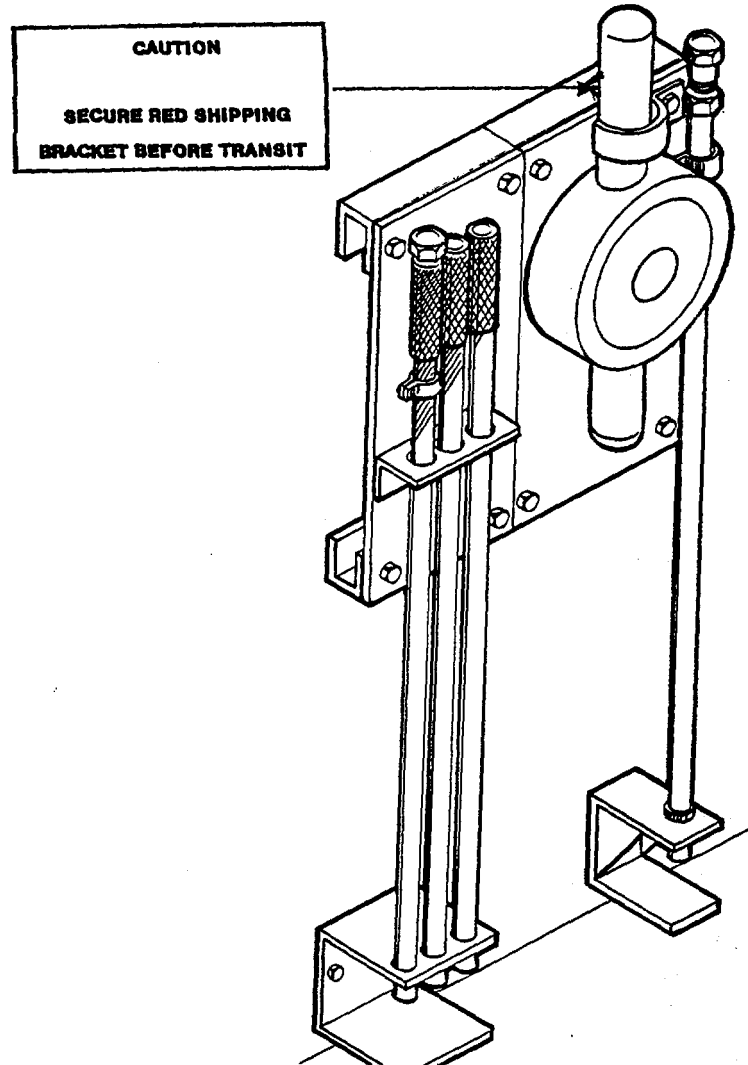

Figure 2-25. Slide Hammer and Grounding Rod Decals
- h. Slide Hammer and Grounding Rod. Figure 2-25 identifies decals for the slide hammer and grounding rod.